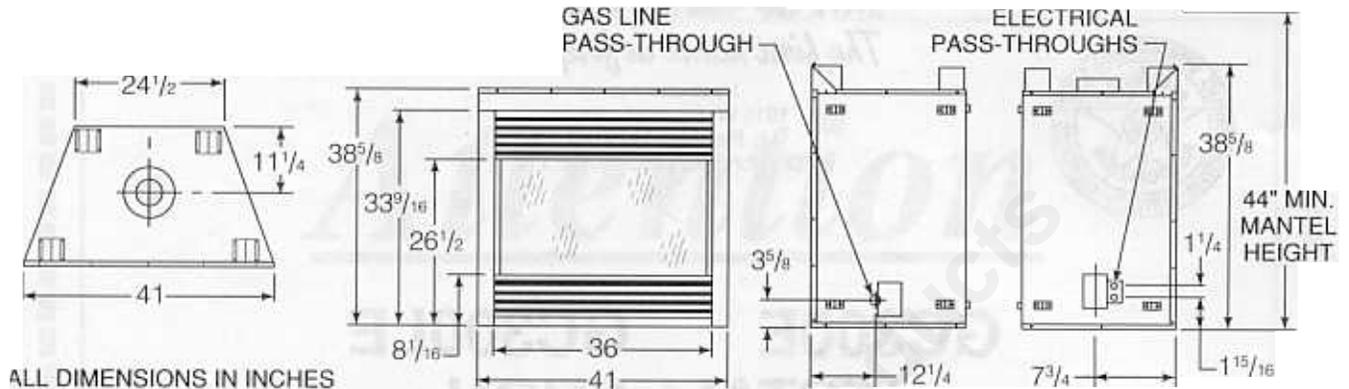

Figure 1
**Finishing the Unit.** When finishing the face of the unit, combustible material may be brought up to the sides of the unit, but must never overlap onto the black metal. The black metal may be covered with non-combustible material only. **NOTE: You cannot cover any of the air slots in the unit, as this may create a fire hazard.** See Figure 1 for air slot location. A combustible mantel may be installed at a minimum of 42 inches above the base of the unit.